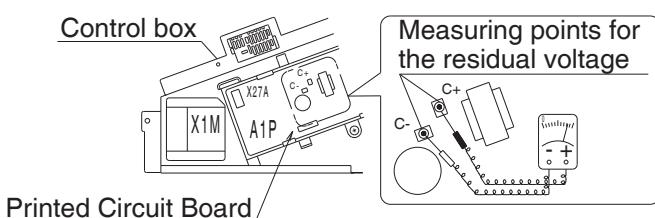

Fig. 1
- After opening the control box lid, measure residual voltage between the points shown Fig. 1 on the Printed Circuit Board by the tester without